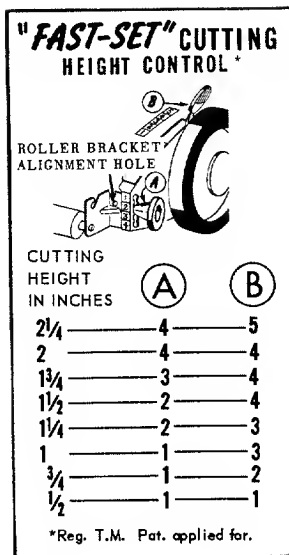

FIG. 3A
1. Consult the chart located on Page 5, (Fig. 3A) and Fig. 3 shown below. The roller adjusting knobs (A) and wheel adjusting levers (B) must be in positions shown for desired cutting height. EXAMPLE: for 1½" cutting height roller knob must be in No. 2 position, and wheel lever must be in No. 4 position. (Fig. 3 and Fig. 3A)